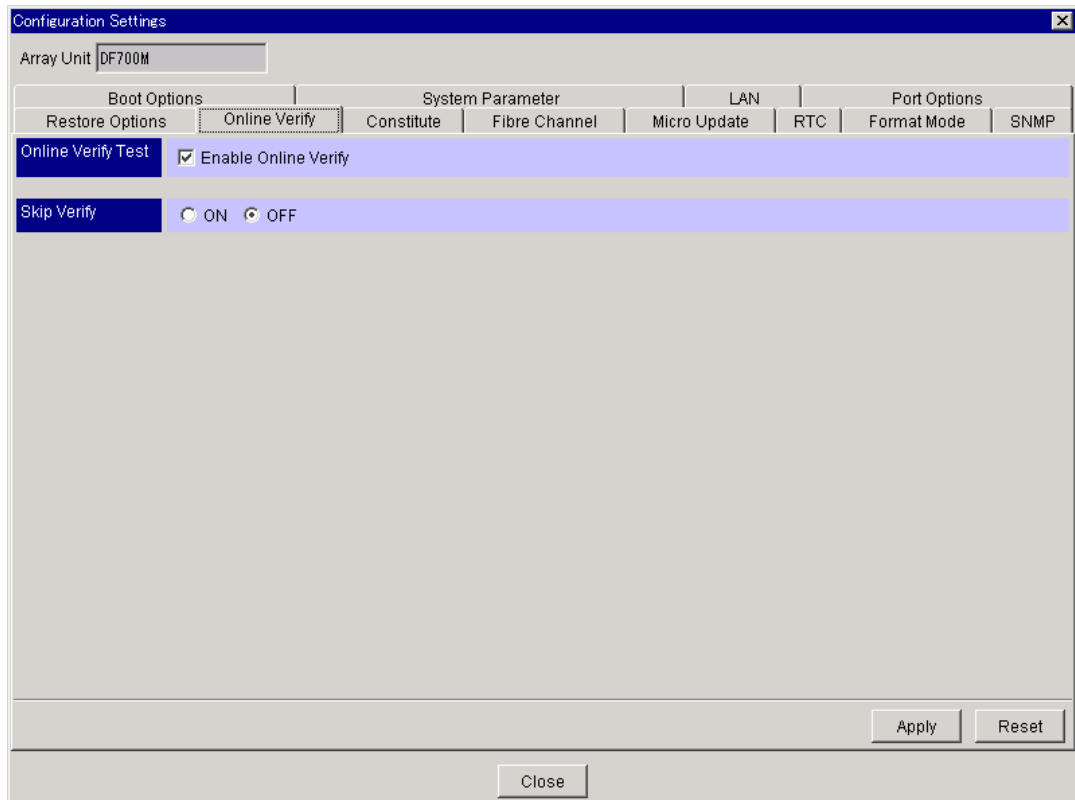

Figure 5.35 Setting Online Verify Mode
3. Click the **Online Verify** tab (see Figure 5.35). For a detailed description of the **Online Verify** tab, refer to section 5.1.8.